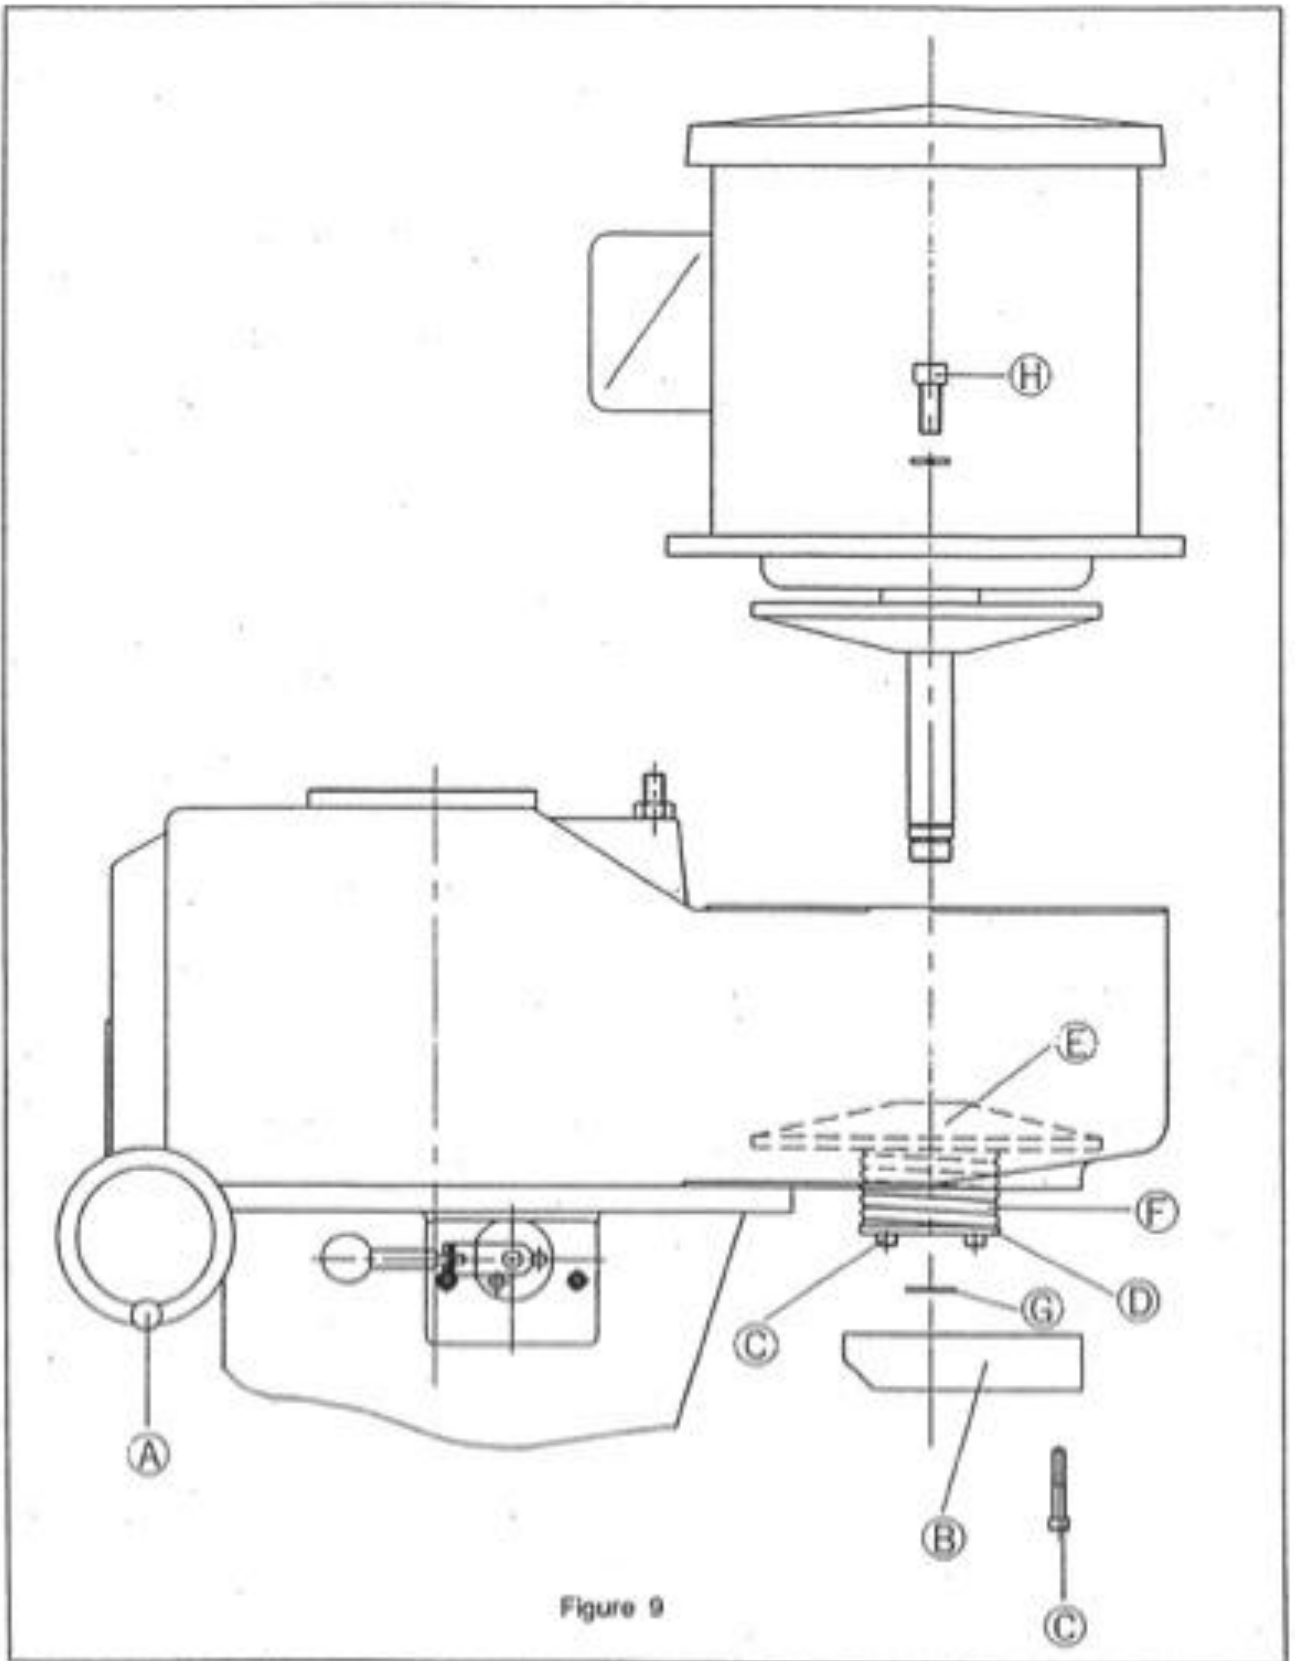

Figure 9
1. Dismantling of Motor (Figure 9):
- a. Start the motor and turn the speed change handwheel (A) to the position of 60RPM appeared on the indicator to lower down the stationary motor vari-disc to the lowest position.
- c. Remove motor pulley cover (B) under the motor shaft. Then, use the two hexagonal concave bolts (C) that locked the bearing housing to , insert into the two holes of the speed change spring piece (D). Lock into the motor varj-disc (E) and evenly lock up the two bolts (C). Push down the speed change spring (F) so as to separate it from the retainer ring (G).
- d. Take out the retainer ring (G).
- e. Take off the two hexagonal bolts (H) that locked the motor. The motor may be lifted up. Motor vari-disc (E) and speed change belt are still kept inside the belt housing_ still kept inside the belt housing_